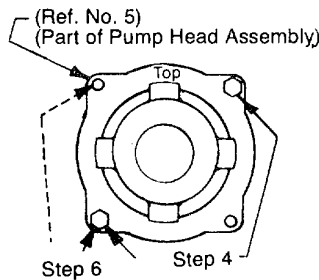
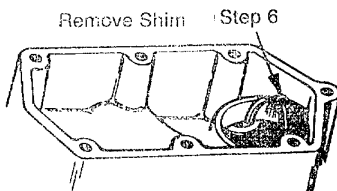

Figure 4
Figure 6
6. Loosen the 3/8-16 x 1" hex capscrews (Ref. No. 7) previously installed. Remove the 0.020" shim from the opening in the front of the casing (See Figure 6). Remove the screw (Rev. No. 7) and washer (Ref. No. 6) installed in the bottom hole of adapter and rethread it into the top hole in adapter (See Figure 4).